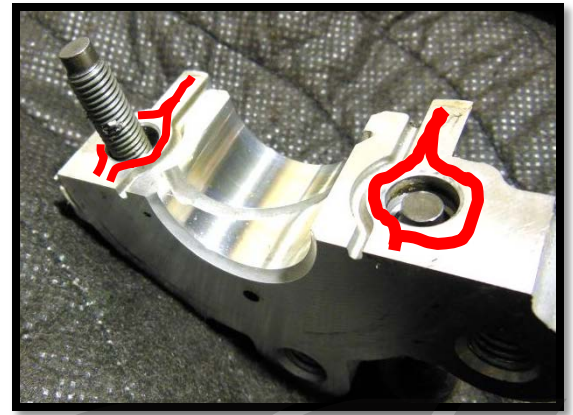

Figure 5e
e) Place a small bead of silicone sealant (red lines in Figure 5e) onto the head mating surface of the #6 intake bearing cap. Finger tighten the 10mm bolts.